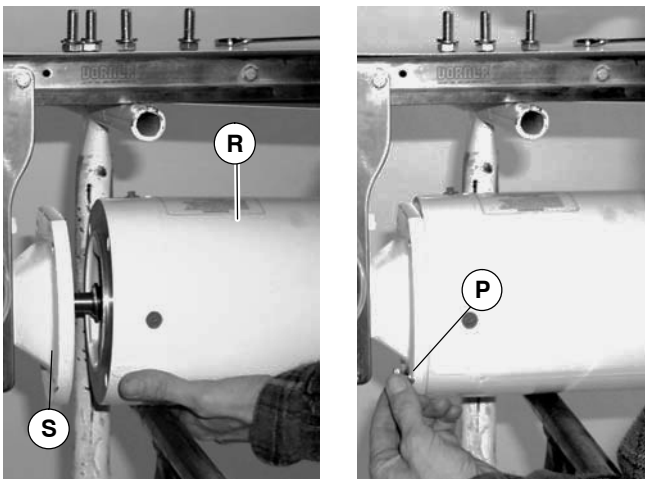

Figure 19
3. Attach motor (R of Figure 19) to gear reducer (S) with four screws and lock washers (P). Tighten screws to 32 ft-lb (41 Nm).